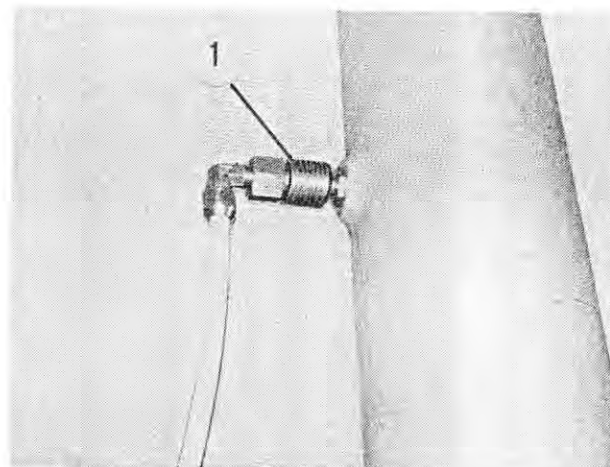

Fig. 220
20. Disconnect the rapid action coupling (Figure 220/1) from the connection of the pneumatic cylinder.